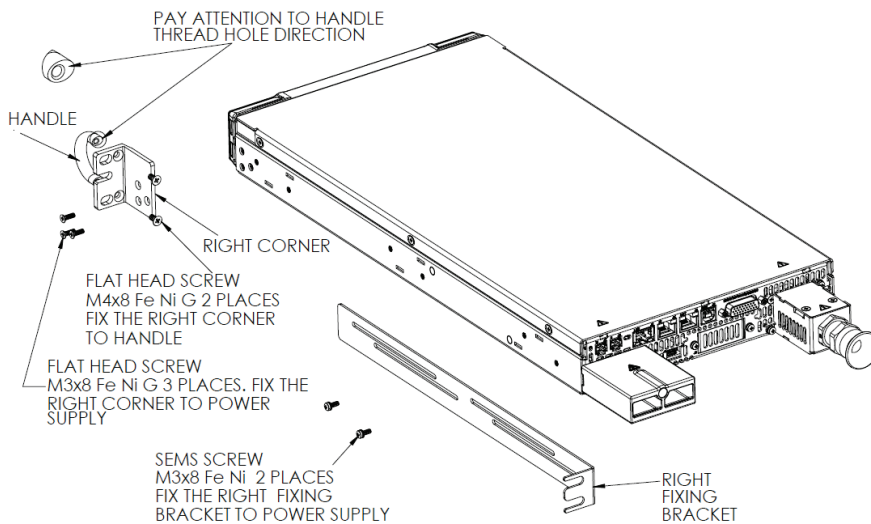

Figure 4-3: Right Corner and Fixing Bracket Assembly to Power Supply
2. Fix handle to the right corner, then fix the right corner to the power supply as shown in Figure 4-3.
3. Fix the right fixing bracket to the power supply as shown in Figure 4-3. Adjust the location of the fixing bracket to fit the depth of the cabinet.